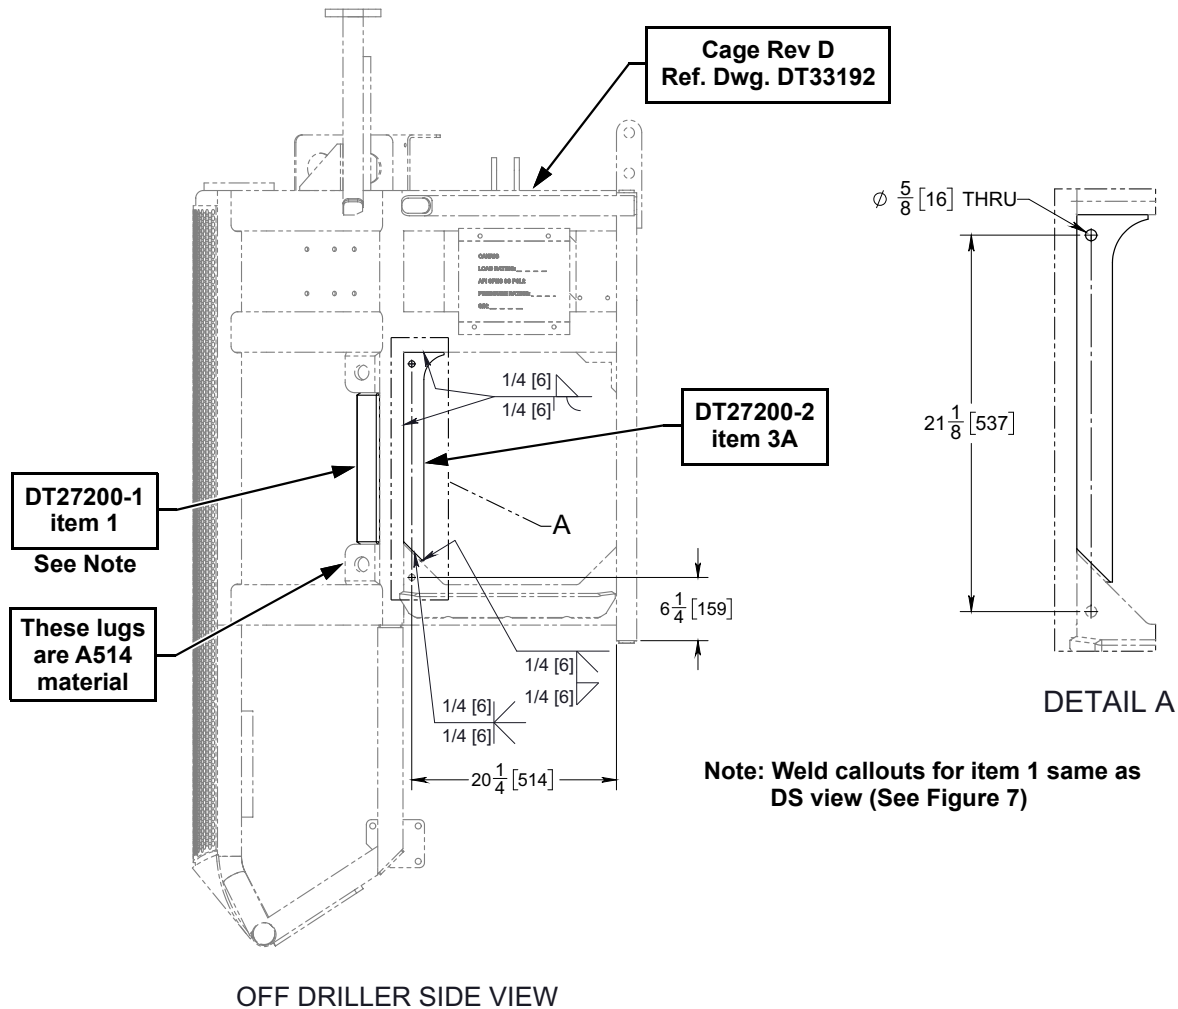

Figure 9: Plates installed on cage (ODS)
2. Replace with plate P/N: DT27200-2 (item 3A) as shown in Figure 9. **Note:** Outside of items 1 and 3A are flush with outside of plate/HSS above and below them.
3. Drill $\frac{5}{8}$ " hole as shown in Detail A in Figure 9.